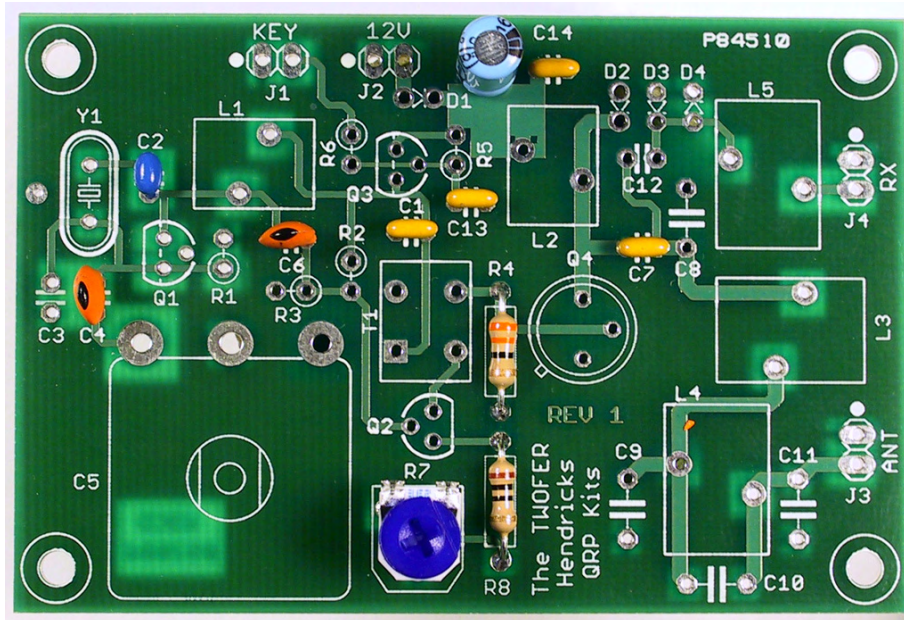

Figure 1 Capacitor and Resistor Installation
- Refer to Figure 1. You can solder the leads of each component as you insert it, or insert several parts and then solder and trim the leads. Install:
- Four .1uF (104) at C1, C7, C13 and C14.
- .01uF (103) at C2. You may need to straighten the leads to permit easy insertion.
- 33pF (33) at C4.
- 39pF (39) at C6.